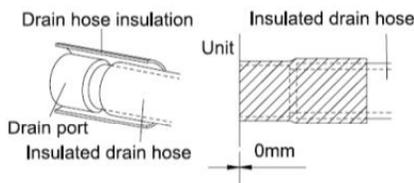

Fig. 4.26
1. Be sure to insulate where the drain port and the drain hose connect.(Fig. 4.26)